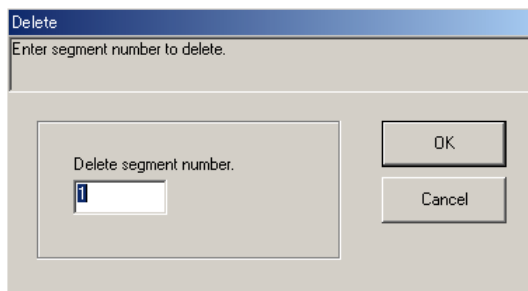

Figure 10.3.8 Delete Dialog Box
- (1) On the menu bar, click **Edit** and then choose **Delete Segment**.
- (2) The Delete dialog box (Figure 10.3.8) appears.